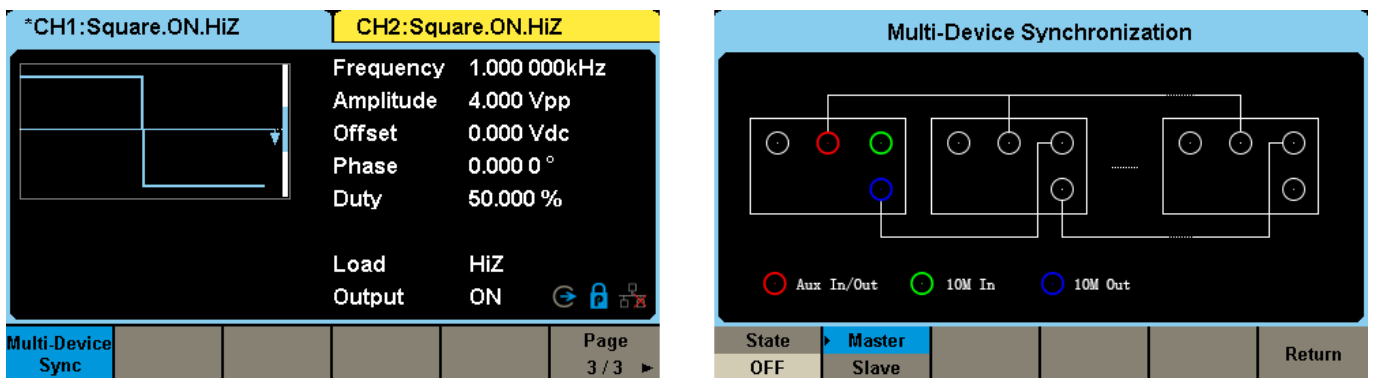

Figure 5. Multi-Device Synchronization Screen
1) Press Utility, go to Page 3/3, then press the soft key under screen to select Multi-Device Sync. The menu will enter the Multi-Device Synchronization screen, shown in Figure 5.